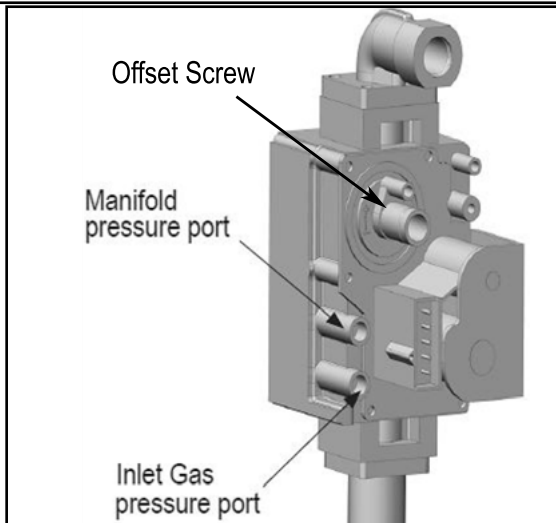

Figure 39 - Gas Valve Detail
**NOTE:** Refer Figure 39 when checking gas line pressure. Loosen the bolts before checking the gas inlet pressure.
If the readings obtained are lower or higher than the combustion readings in Table 23, use a 4mm Allen key to adjust the offset screw in a clockwise (positive) or counterclockwise (negative) direction (approximately 1/4 turn). See Figure 39. Check your combustion values. Repeat this procedure until the values obtained on the combustion analyzer agree with those stated in Table 23.